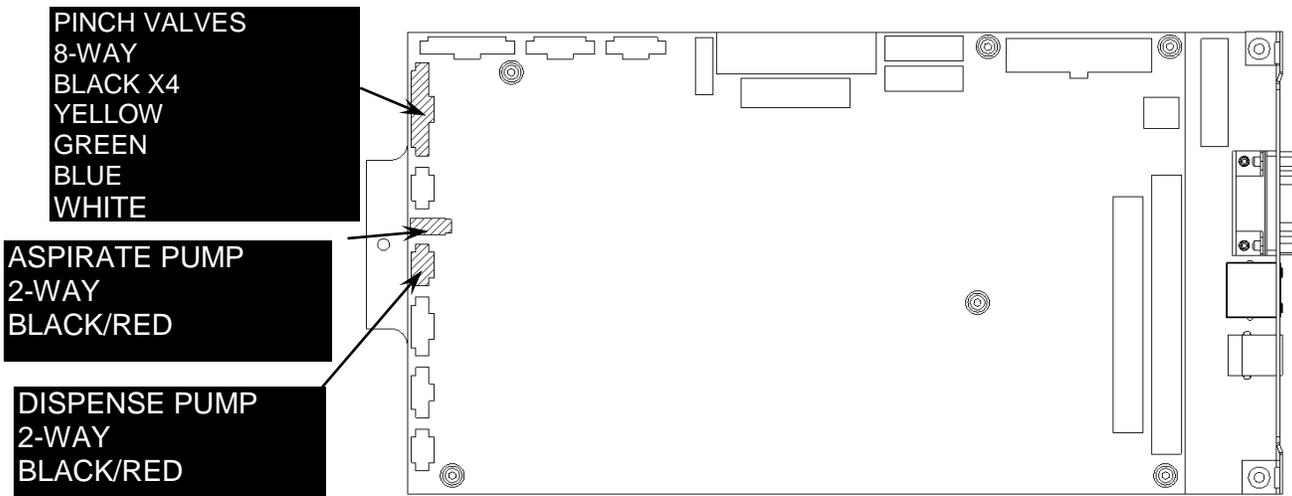

Figure 14-10: Cable Connections, Part 3
3. Plug the connectors from the Pump Assembly into the I/O board (Figure 14-10).